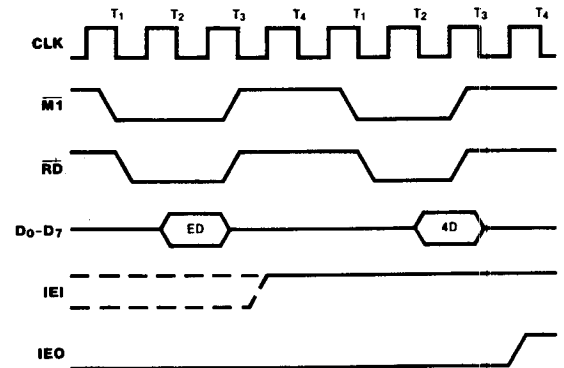

Figure 15. Return From Interrupt Timing
**Return from Interrupt Timing.** At the end of an interrupt service routine the RETI (Return From Interrupt) instruction initializes the daisy chain enable lines for proper control of nested priority interrupt handling. The CTC decodes the 2-byte RETI code internally and determines whether it is intended for a channel being serviced. Figure 15 shows RETI timing.